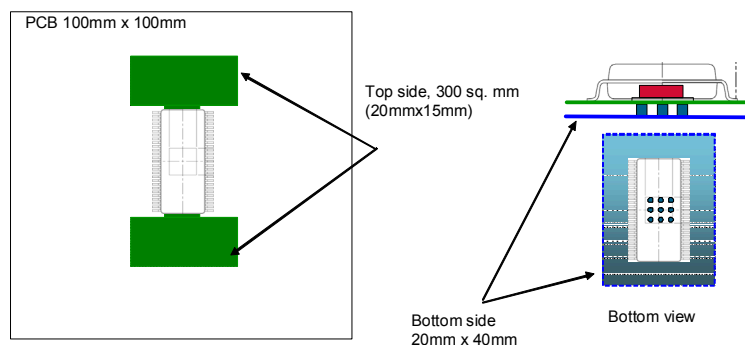

Figure 15. PCB with Top and Bottom Layer Dissipation Area (Dual Layer)
- This parameter was measured according to Figure 15: